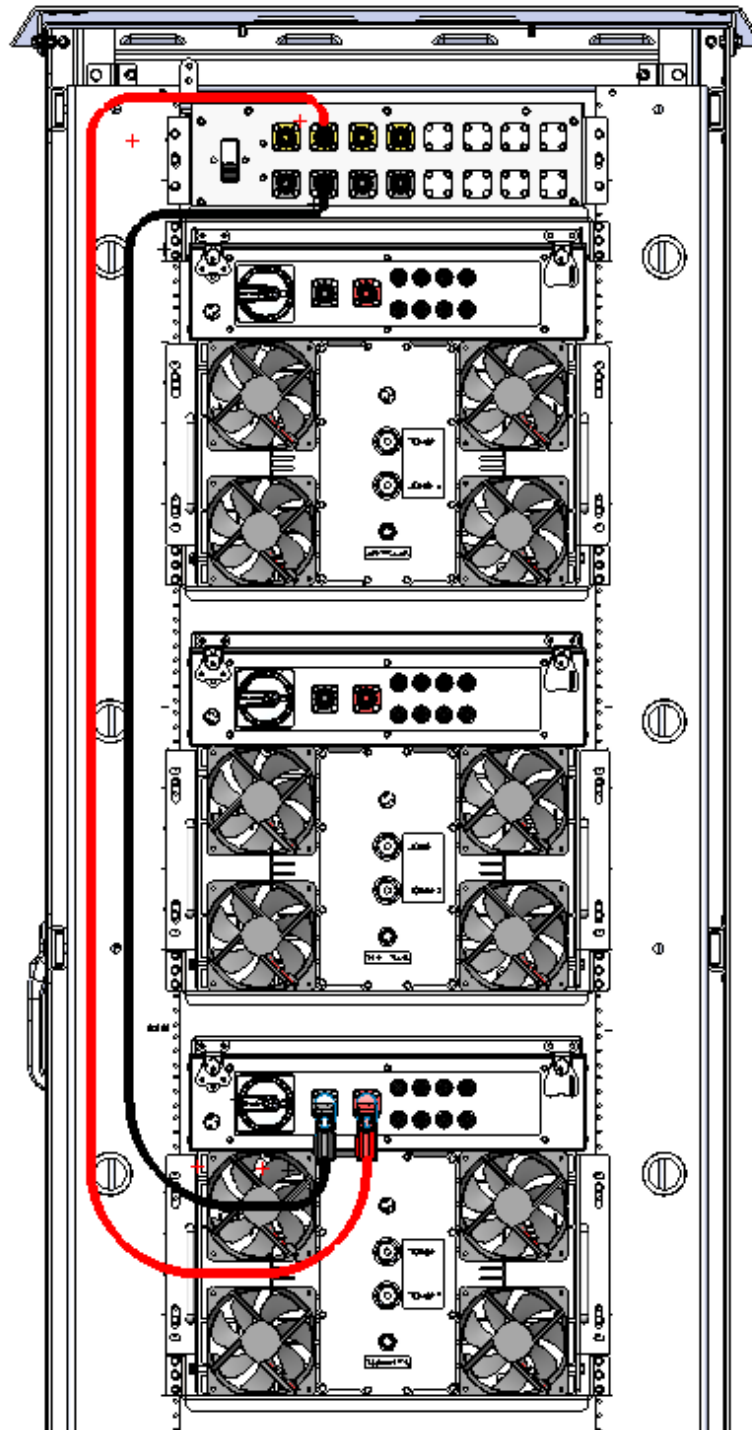

FIGURE 18: SURLOK CABLING ROUTED TO PRIMARY (INPUT) FEED #3
- (2) 6.5-foot SurLok Cables for SPOT #3 shown in Figure 18.